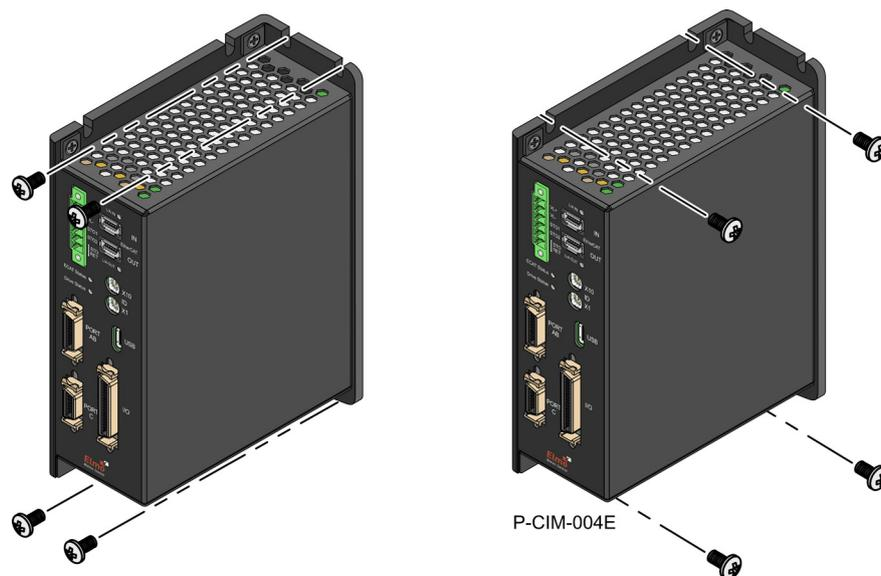

Figure 1: Narrow Back-Side and Wide-Side Mounting of an L-shape Platinum Cimbasso
- For the narrow backside mounting of the Platinum Cimbasso, use two, three, or four M4 screws, as shown in Figure 1 below,
- For wide side mounting of the Platinum Cimbasso, use four M4 screws, as shown in Figure 1 below. This is the recommended way to mount the L-shaped Platinum Cimbasso.